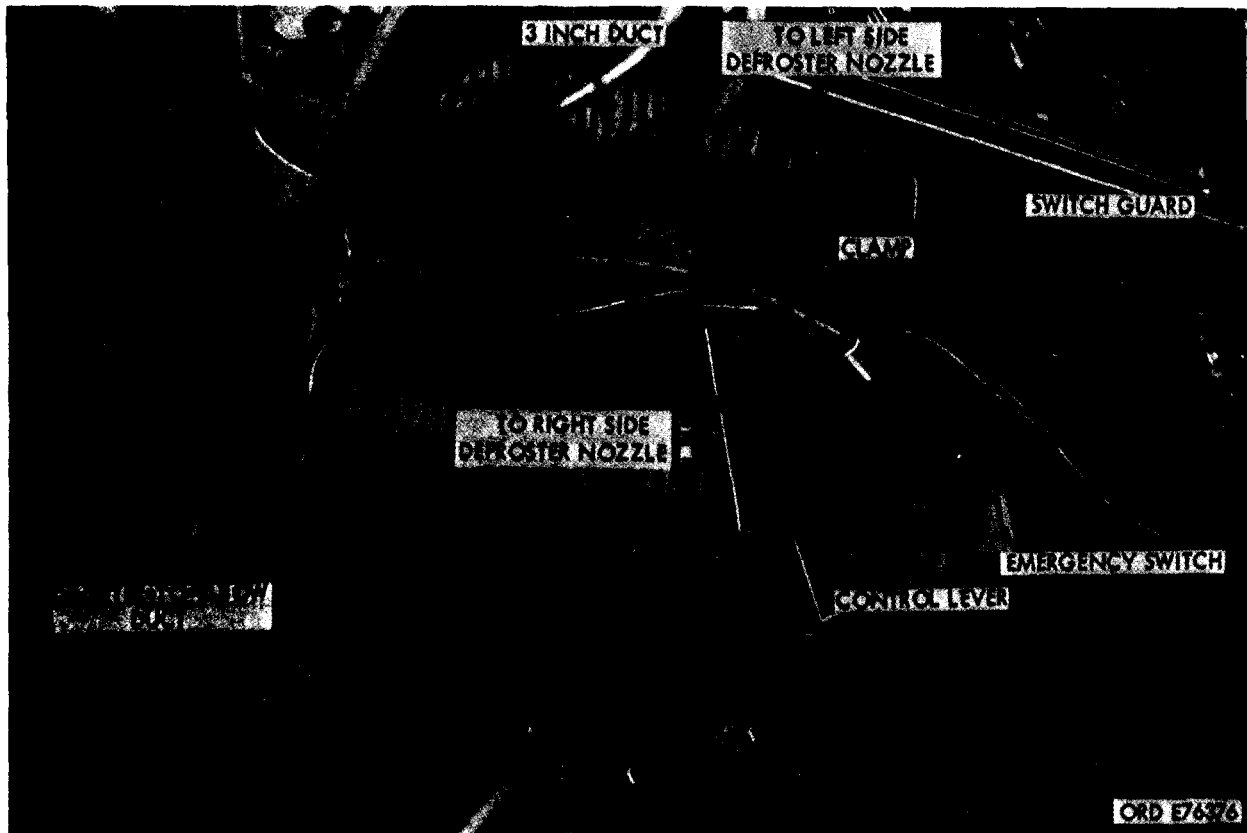

Figure 685. Defrost duct installation
- (3) Secure deflector with five 4-24x1/2 self-tapping screws MS 96906-24641-14.
- (4) Repeat operation on left side with other defrost deflector.
l. Install Defroster Ducts (Figure 685).
- (1) Secure 26-1/2 inch long x 3 inch diameter duct 7951086 to the right windshield de-